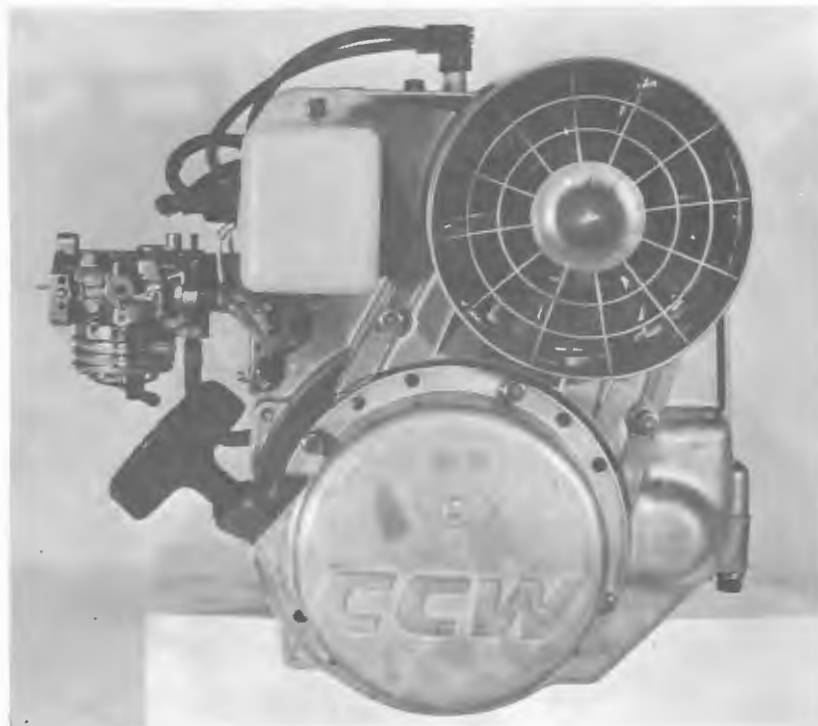

FIGURE 1-1 CCW MODEL 290 ENGINE
1.3 The model CCW290 engine is shown in Figure 1-1. This engine is designed for use in various snowmobile configurations and is suitable for use in All Terrain Vehicles or similar applications.